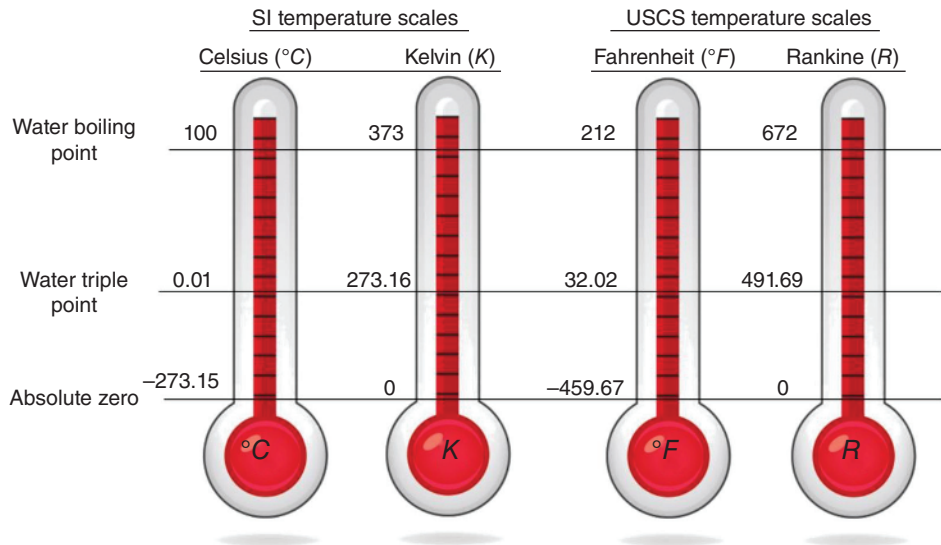

Figure 1.20 A comparative illustration of two temperature scales.
the molecules KE . It means that the lowest temperature would be at the lowest molecules KE and the lowest KE is zero. Kelvin and Rankine are absolute temperature scales, indicating that they depend on the zero temperature corresponding to a zero molecule KE . In this regard, Figure 1.20 shows the groups of temperature scales with the Celsius and Kelvin scales under the “*le Système International d’unités* (SI), referring to the International System of Units. The SI system is a simple and logical unit system that is based on the decimal relationship between the various units of the same dimensions. The second group of temperature scales with the Fahrenheit and Rankine scales is known as the English System of Units, which is also known as the *United State Customary System* (USCS). Although one